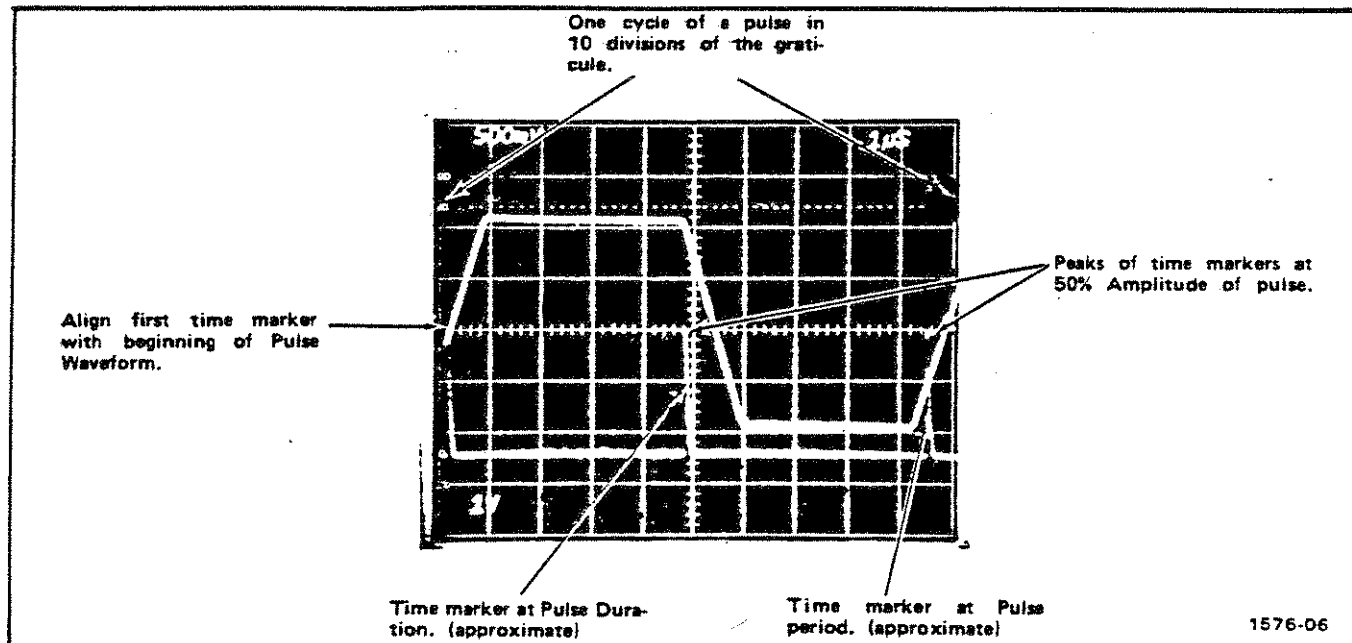

Fig. 2-5. Markers approximately at pulse duration and period.
4. Set the time/div switch to display 1 cycle of a pulse in 10 divisions of the graticule on the oscilloscope, as indicated in Fig. 2-5.
5. Use the MARKER Control switch of the TG 501 to display one time marker approximately at pulse duration and one at pulse period. Align the first time marker with the beginning of pulse wave-form. See Fig. 2-5.
7. Use the Vertical Position control of the oscilloscope to set the peaks of the time markers at 50% amplitude of the pulse shown in Fig. 2-5.